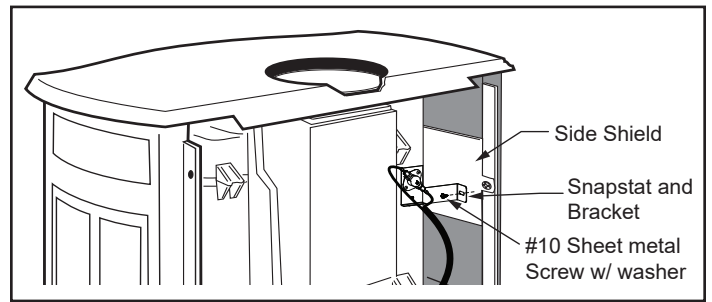

Figure 4 - Attach snapstat and bracket
4. Attach the snapstat bracket to the side shield, Figure 4.